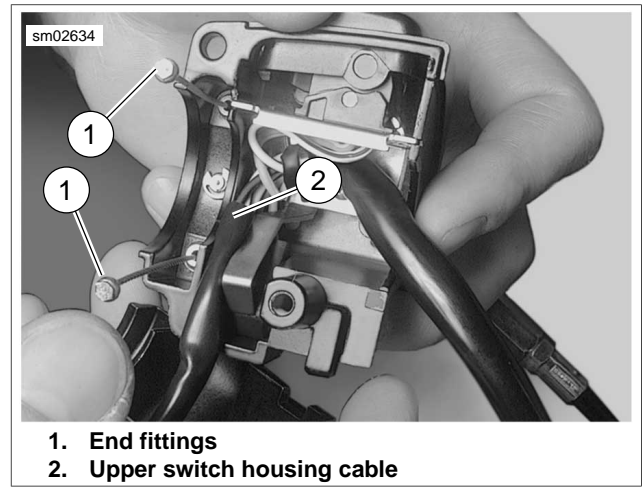

Figure 8-82. Route Cable to Upper Switch Housing
3. See Figure 8-82. Route the cable (2) to the upper switch housing as shown.